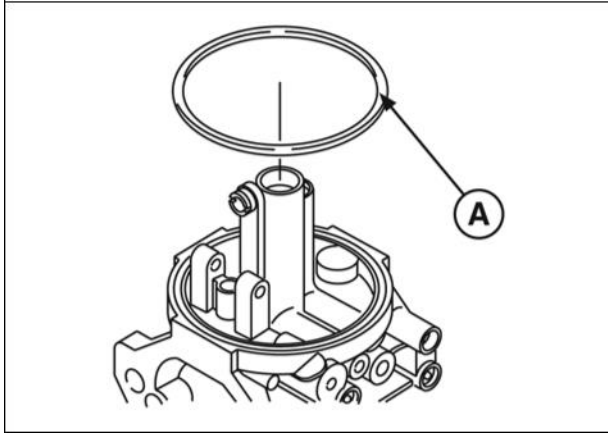

Figure 30
4. Remove rubber float bowl gasket (A, Figure 30).